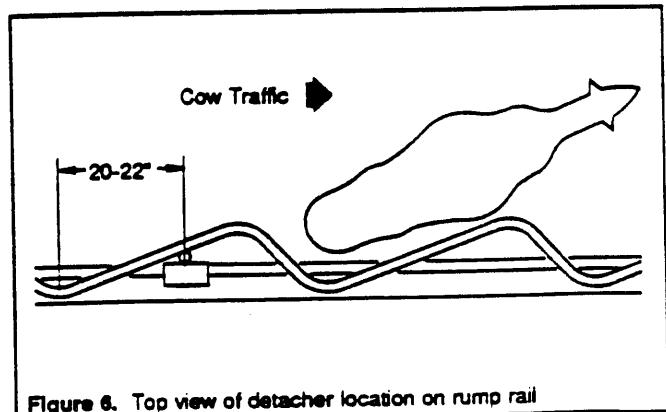

Figure 6. Top view of detacher location on rump rail
6. Assemble the bottom mounting bracket and the upper hinge of the flex arm assembly (if used) to the lower rump rail using 2 U-bolts, 4 helical spring lock washers, and 4 hex nuts. The mounting bracket must be assembled between the rump rail and the flex arm assembly, as shown. Then, adjust the mounting bracket and flex arm assembly so that the center of the bracket is 20" to 22" ahead of the outside bend of the rump rail, as shown in Figure 6.